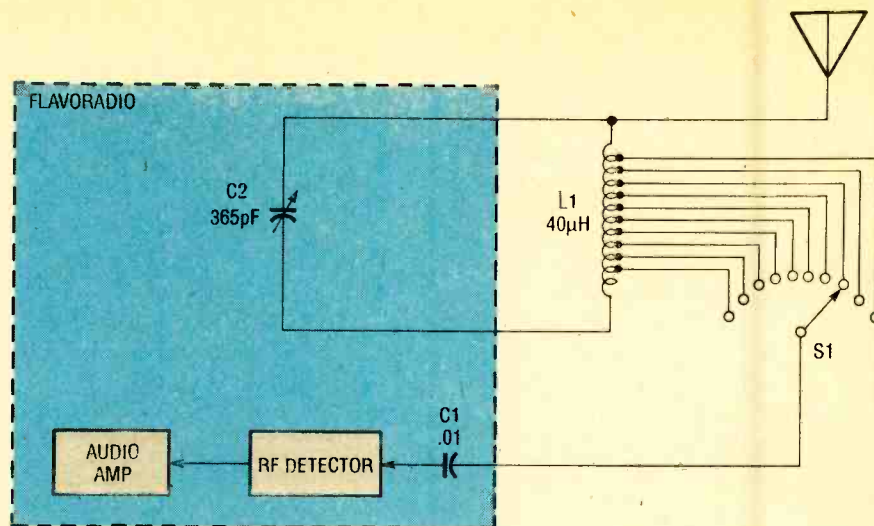

Fig. 1. Adding a rotary switch and a 40- $\mu$ H homemade coil to an inexpensive AM radio yields a portable shortwave receiver with surprising performance.
Fig. 1. The Telephone Toll Totalizer—built around two 4518 dual synchronous up counters, a 74C925 4-digit counter, a 4584 hex inverting buffer, and a 4081 quad 2-input AND gate—is fairly simple.
**About the Circuit.** Figure 1 is a schematic diagram of the Telephone Toll Totalizer. The circuit, built around two 4518 dual synchronous up counters, a 74C925 4-digit counter, a 4584 hex inverting buffer, and a 4081 quad 2-input AND gate, is fairly simple. A pulse generator comprised of U1-d and U1-e—whose output frequency is determined
**Making the conversion.** The schematic diagram for the Economy Shortwave Receiver is shown in Fig. 1. In addition to the Radio Shack AM Flavoradio, the only components required are a hand-wound coil (L1), a 10-position switch (S1), a long-wire antenna, an enclosure, and a few lengths of hook-up wire. Note that a 10-position switch may be difficult to obtain. In its place, the author substituted an easily found 12-position switch and simply did not use two of the positions.
**How It Works.** Figure 1 is a schematic diagram of the NiCd Battery Tester. The circuit is comprised of two 3-terminal voltage regulators (U1 and U3),  $\frac{1}{4}$  of a quad comparator (U2), a 2N3904 general-purpose transistor (Q1), a 4-amp, 50-PIV bridge rectifier (BR1), and a handful of support components.
In Fig. 1, the output of an adjustable voltage regulator (U3) is set by R8 and applied across a 5-ohm load consisting of two parallel-connected 10-ohm, 10-watt power resistors (R10 and R11).
Fig. 1. The NiCd Battery Tester is comprised of two 3-terminal voltage regulators (U1 and U3), 1/4 of a quad comparator (U2), a 2N3904 general-purpose transistor (Q1), a 4-amp 50-PIV bridge rectifier (BR1), and a handful of support components.